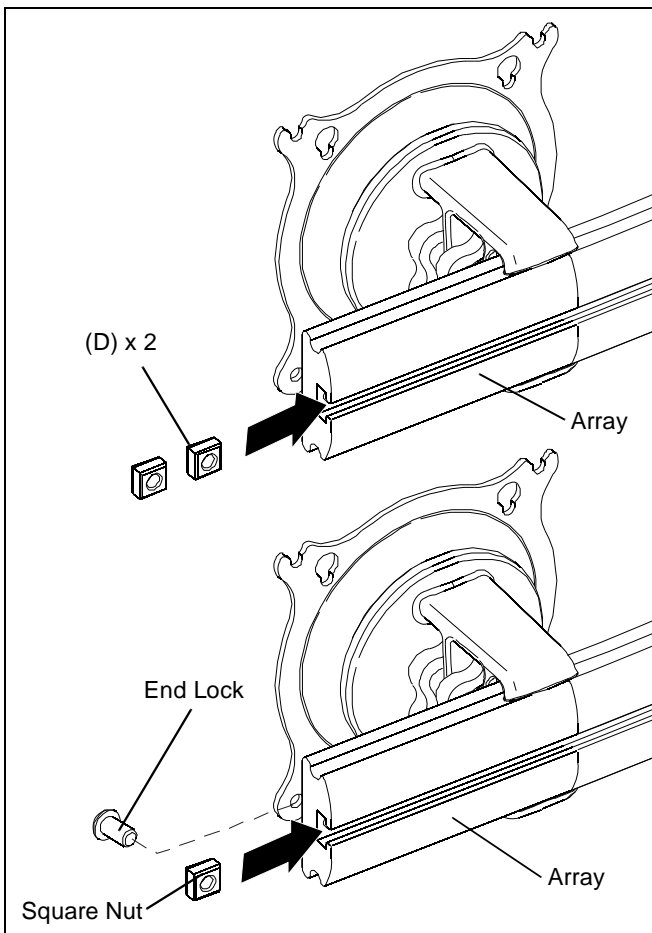

**Figure 3**
5. Remove two cable management clips from array and set aside for reuse. (See Figure 3)